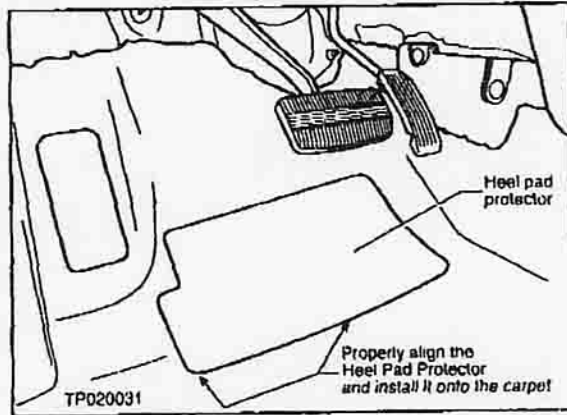

Figure 4
6. Properly align the Heel Pad Protector and install it onto the carpet area (see Figure 4).